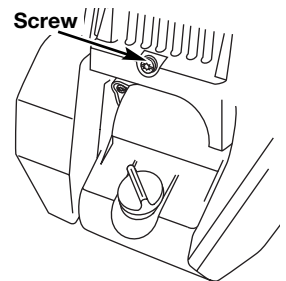

Fig. 32
3. Remove the screw behind the engine cover (Fig. 32).